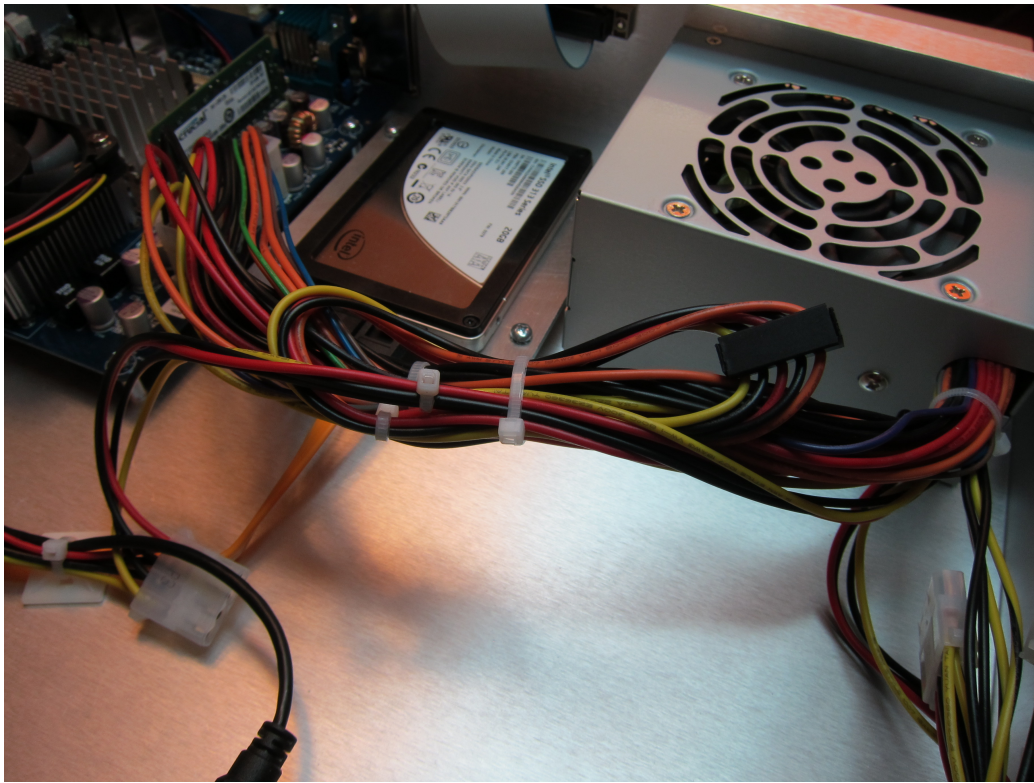

Figure 46: Securing the extra lengths of the SATA and iGp12 power cables.
15. Use 4" cable tie (08432-0) to secure the extra length of the SATA power cable and the iGp12 power cable to the motherboard power cable bundle. See Fig. 46.